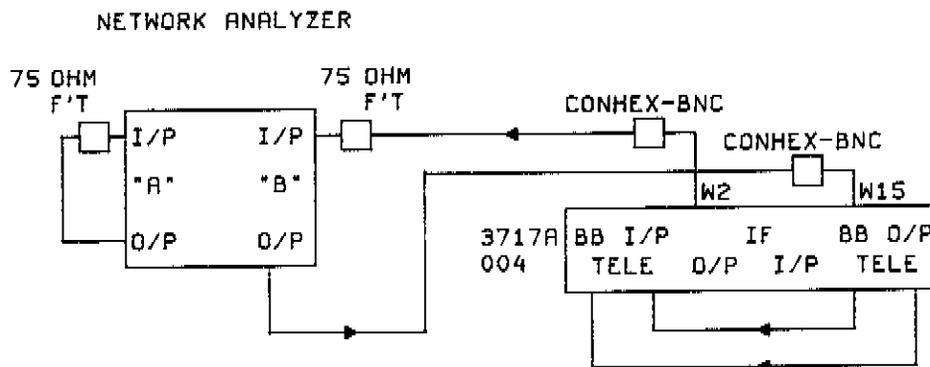
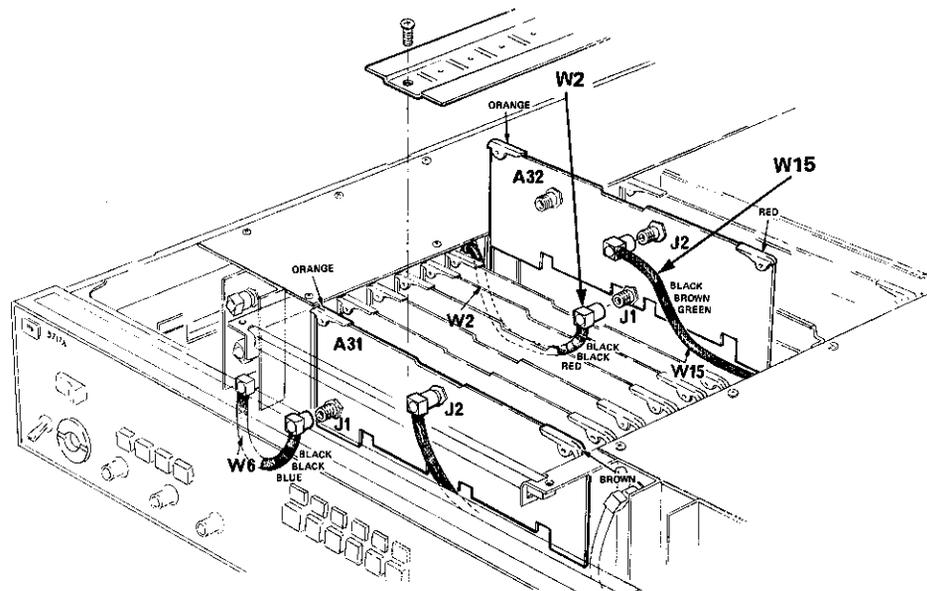

Figure 4-13 Option 004 BB-to-BB Frequency Response Test
Figure 4-14 Internal Location of W2 and W15
6. Switch the 3717A OFF, remove the line cord from the instrument and remove the two upper rear feet if fitted, before unscrewing the top cover. Remove the central metal strap and lift A32, see Figure 4-14.
7. Refer to Figure 4-14 and disconnect the brown-green coded cable (W15) from A32J2 and connect the "B" OUTPUT of the Network Analyzer via a 75 Ohm Conhex to BNC adapter to the free end of W15 as shown in Figure 4-13.
8. Disconnect the red coded cable (W2) from A32J1 and connect the "B" INPUT of the Network Analyzer via a 75 Ohm Conhex to BNC adapter to the free end of W2 as shown in Figure 4-13.
12. Switch the 3717A OFF, refer to Figure 4-14 and reconnect W2 and W15 to A32, install A32 in its slot, replace the central metal strap, top cover and if fitted, the two upper rear feet.